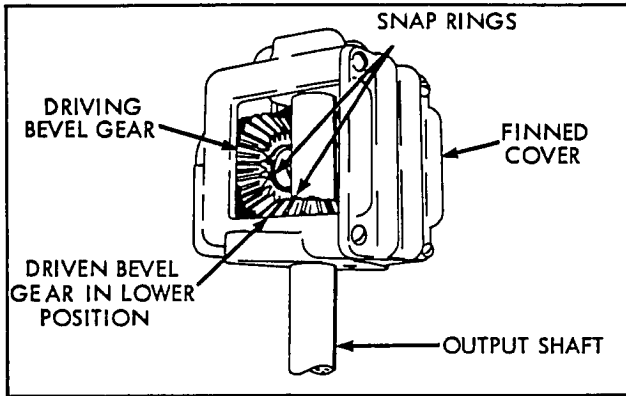

Figure 9-1 Output Shaft Removal
- (a) If the driven bevel gear is on the bottom (Figure 9-1) remove the snap ring on the output shaft and pull out the output shaft.